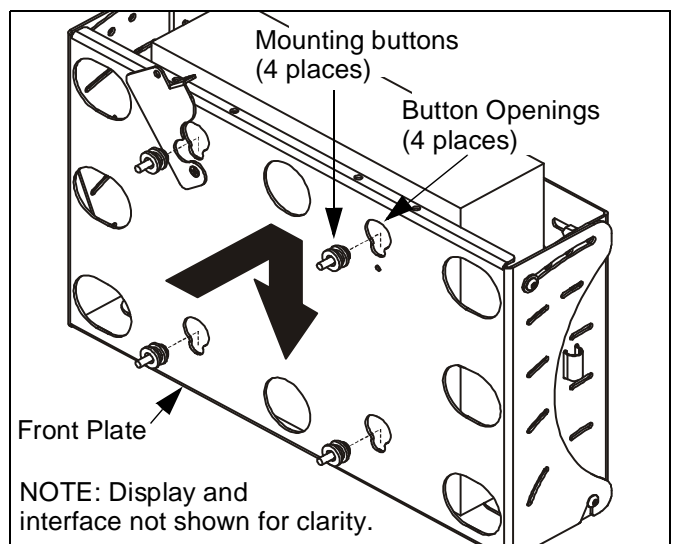

Figure 8: Align and Lower Display
3. Lift and maneuver display so that all four mounting buttons fit into button openings on front plate. Lower display firmly into place. Ensure each button has fully seated in its button opening (See Figure 8).